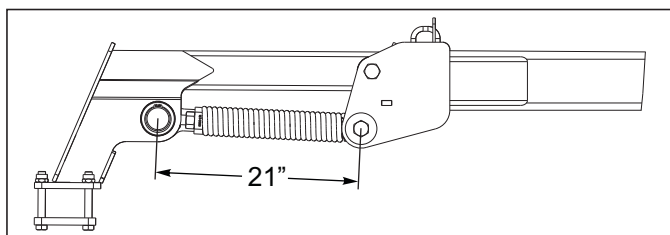

Figure 4-18: Conditioner Reel Setting
1. Initially set the depth of the conditioner reel with the bottom of the reel approximately 1" above the bottom of the disc gang blades. This will be approximately 21" spring centers (for 24" disc blades) **See Figure 4-18.**